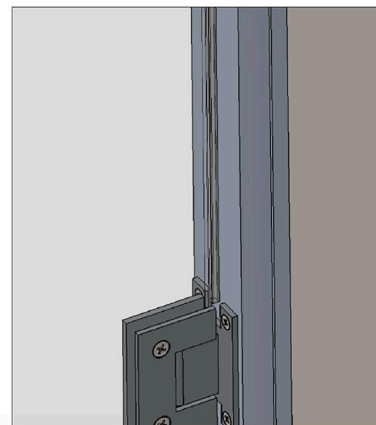

FIGURE 29B
ZV SDTB Bulb Seal (N) - This is to be placed on hinge edges of glass. You will need to cut into 3 pieces that will fit the small areas from top hinge to top of door; bottom hinge to bottom of door and the large area between hinges. Remove red covering to expose adhesive and apply to edge of glass. (See Figure 29B)